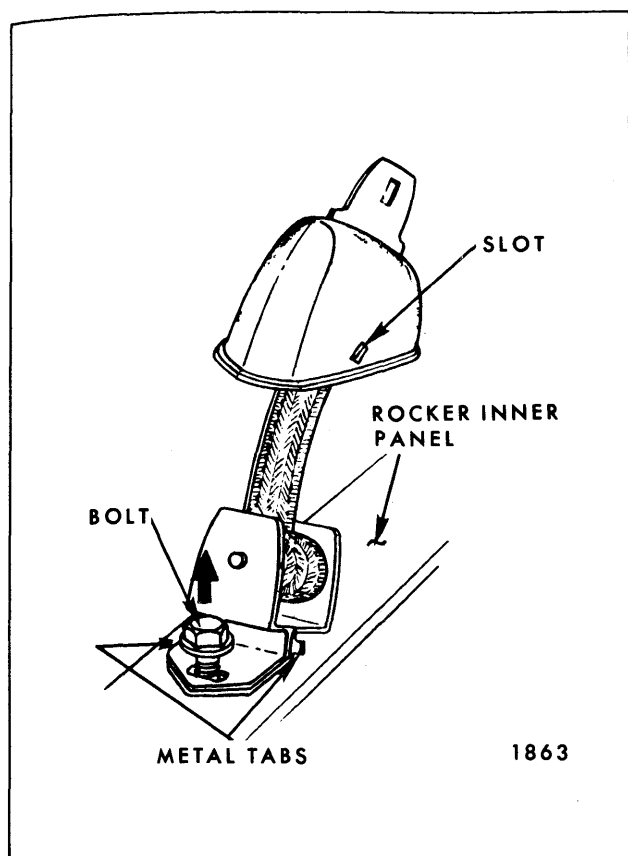

Fig. 10-83—Removal of Seat Belt Retractor with Cover
2. Lift up cover to expose bolt securing seat belt retractor (See Fig. 10-83).
3. Remove bolt and remove retractor (See Fig. 10-83).